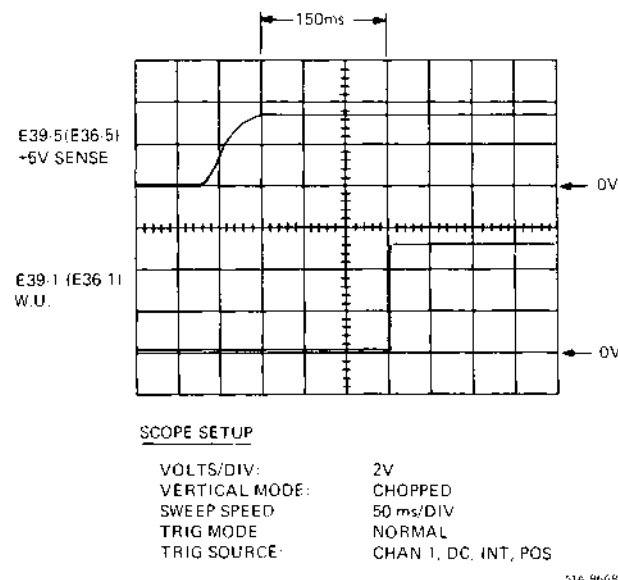

Figure 6-2 DC Wake-Up Waveform
3. Connect channel 1 of scope to E39-5/E36-5 (+5 volt sense). Connect channel 2 of scope to signal WU at E39-1/E36-1. Set up scope according to Figure 6-2.
4. Apply power to the terminal and check for waveshape of Figure 6-2. The WU (Wake Up) signal should go high approximately 150 ms after +5 volt sense reaches the peak of its ramp. Turn power off and on to repeat the waveshape.